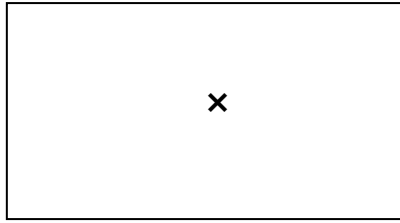
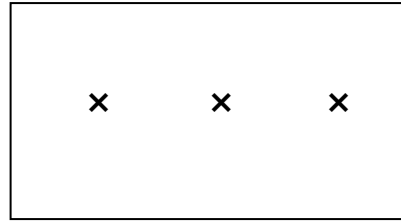

Figure 1
Figure 2
- Place one (1) TI-108 in the center of an empty tray (see Fig. 1). Please note that you can place three Sonocheck in a tank; it depends on the size of the sonic equipment and the tank (figure 2). You must test with at least one SonoCheck.
- Figure 1 – Test location of TI1-108 are placed in the center of an empty tray along the bottom